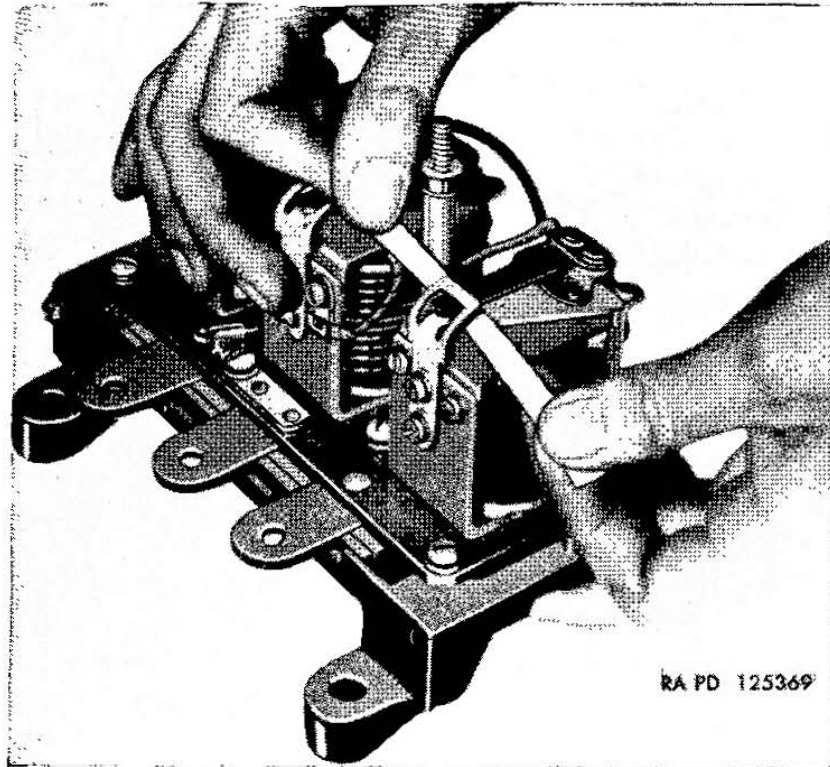

Figure 129. *Cleaning contacts on group 4 regulators with linen tape and carbon tetrachloride.*
- (7) *Contacts.* Inspect contacts on all three units. In normal use contacts will become grayed. If contacts are burned, dirty, or rough, file with contact point dresser parallel and lengthwise to armature (fig. 128). File just enough so contacts present smooth surfaces. It is not necessary to remove every trace of burning. After filing, dampen a piece of linen tape in carbon tetrachloride and draw between contacts (fig. 129). Repeat with dry tape. Use clean tape for each set of contacts. Due to type of contact material used on VAD-4106A,